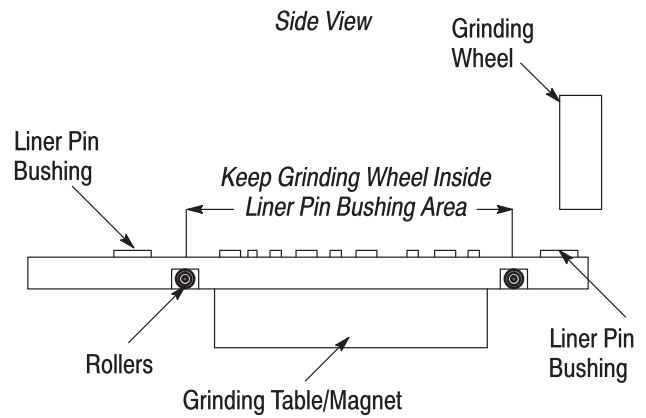

Figure 9
1. Be sure the rollers are not in contact with the grinding table. Remove the rollers if necessary. Refer to Figure 9.